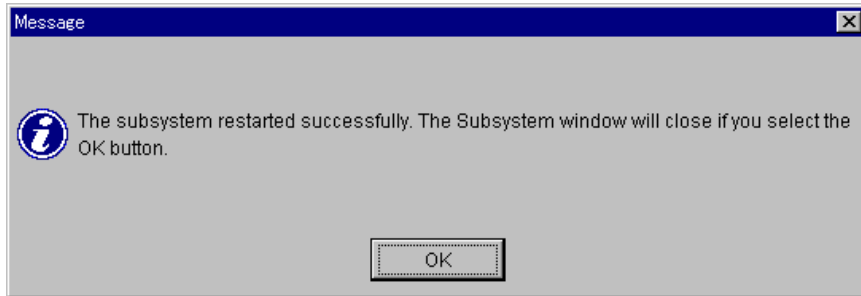

Figure 4.7 Subsystem Restart Successful Message
- When the restart terminates, a message appears (see Figure 4.7). Click the **OK** button; the Unit screen closes. To perform other operations on the Main screen, select an array unit from the Main screen and open the selected Unit screen.
8. When the restart terminates, a message appears (refer to Figure 4.7). Click the **OK** button; the Unit screen closes. To perform other operations on the Main screen, select an array unit from the Main screen and open the selected Unit screen.
- When the restart terminates, a message appears (refer to Figure 4.7). Click the **OK** button; the Unit screen closes. To perform other operations on the Main screen, select an array unit from the Main screen and open the selected Unit screen.